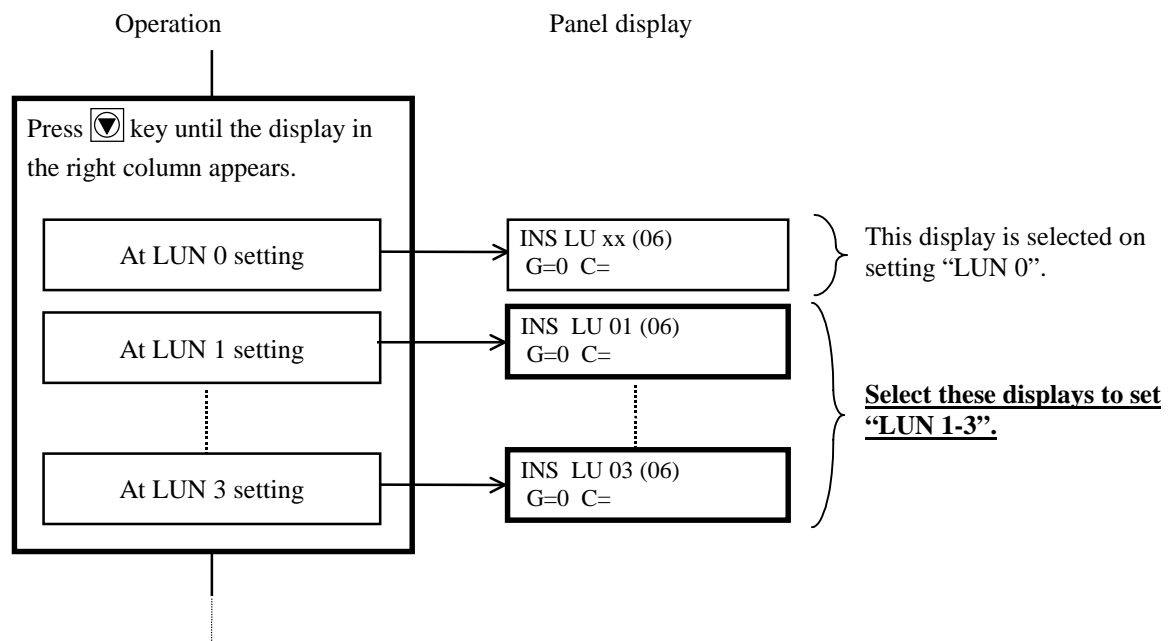

Figure 6.3.6-④ Selecting "LUN 1-3"
- After instituting LU CONFIG for LUN 1,2,3, go to ⑤.
(i) The difference in the selecting operation is shown in Figure 6.3.6-④